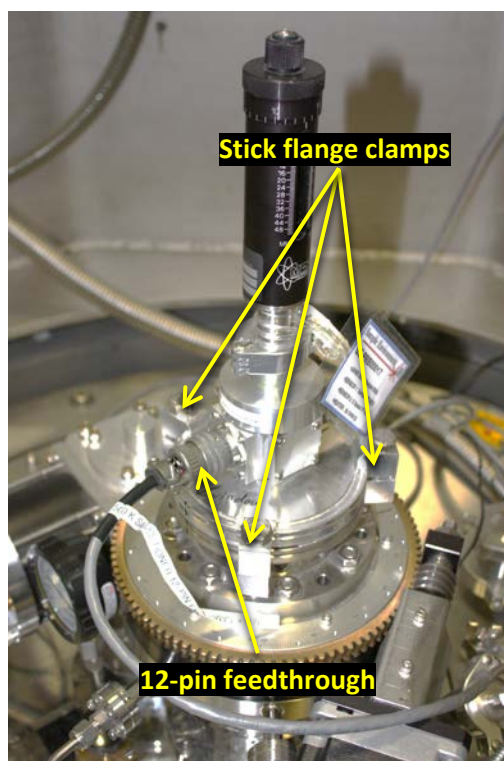

Figure 5. Sample stick connections
- j. Remove the heat shield (Figure 5) by removing the four screws. Be careful not to bend the stick.